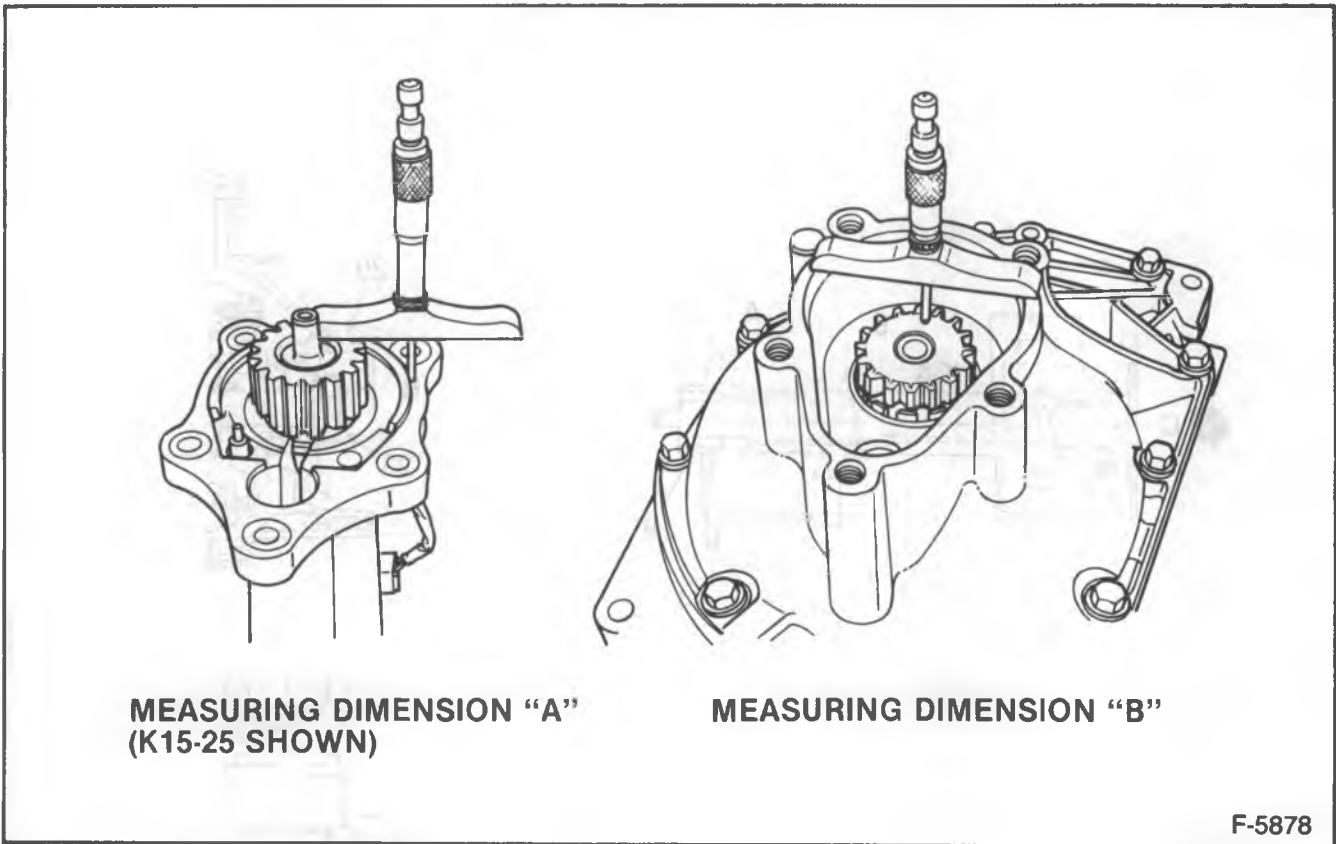

Figure 38—Measuring to Calculate Shim Size
2. Push on the inner end of the shaft (1), and move the shaft outboard as far as it will go. The shaft must be in this position when measuring dimension "A".
3. Measure dimension "A". Use J 34672 or equivalent (figure 38).
- K15-25: Tube flange machined surface to inner surface of connector (9).
- Carrier machined surface to outer surface of output shaft (23).